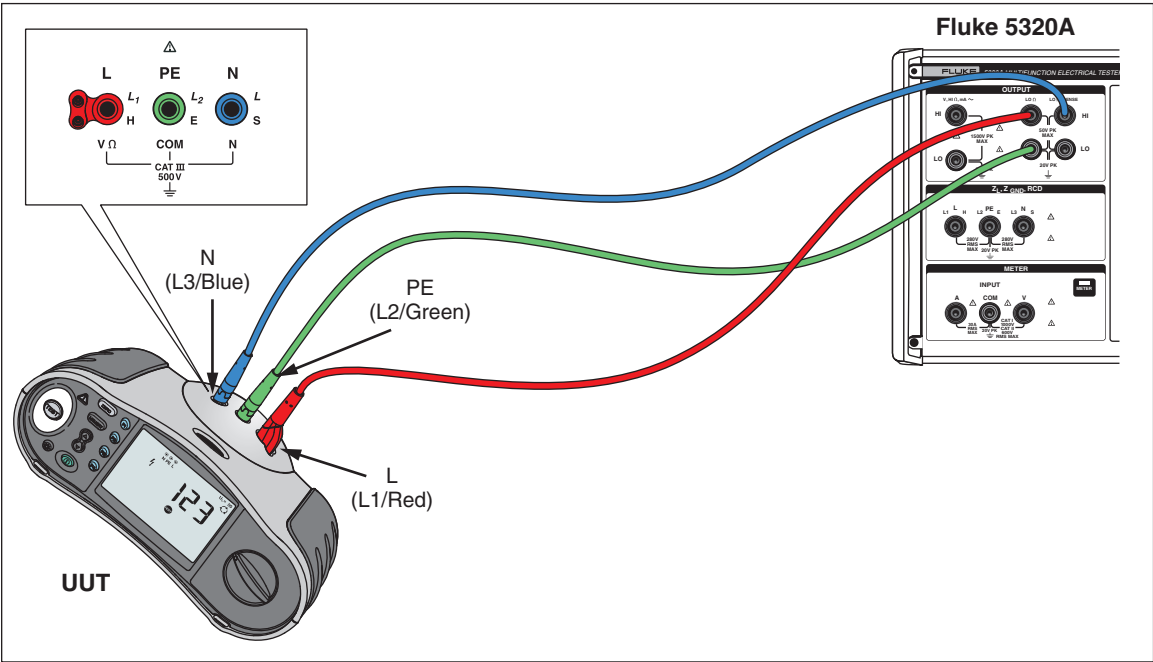

Figure 10. Earth Resistance Tests
- 2. Connect the UUT to the 5320A LO  $\Omega$  Output terminals as shown in Figure 10.